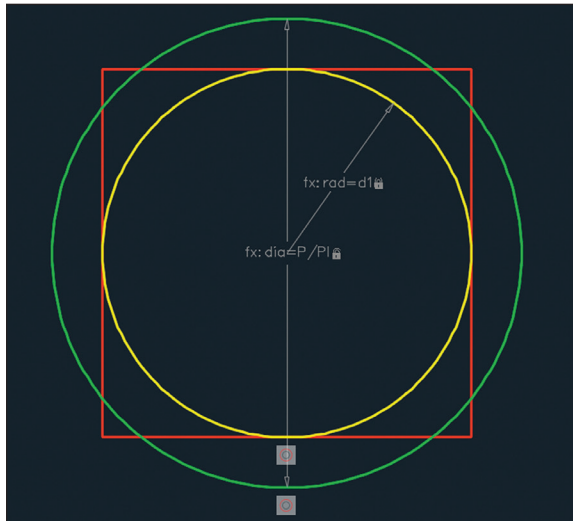

FIGURE 12.10 Constraining the yellow circle geometrically and dimensionally
4. Select the Radius constraint tool in the Dimensional panel, select the yellow circle, and click a point inside the circle to locate the dimension line. Type rad=d1 and press Enter. The yellow circle changes size so that it fits perfectly within the square (see Figure 12.10).